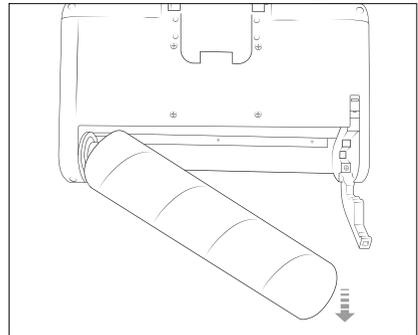

Fig. 13
- 3) Take the roller brush **12** out of the wiping unit **7** (see Fig. 13).